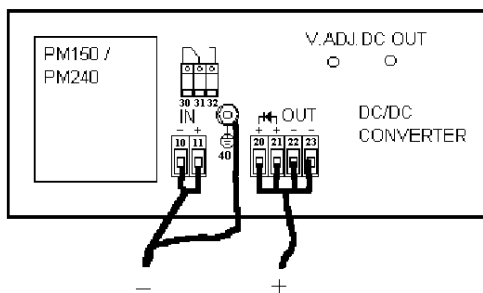

Figure 6. Output to case isolation voltage test.
- Connect your isolation tester between output and case. See *Figure 6*. Raise the voltage of the isolation tester from 0 to 4000Vd.c. Check that the leakage current does not exceed 5 $\mu$ A. The voltage should not be applied for more than a
4. Connect your isolation tester between output and case. See Figure 6. Raise the voltage of the isolation tester from 0 to 2500Va.c. The voltage should not be applied for more than one (1) minute or the Y-capacitors might be damaged.